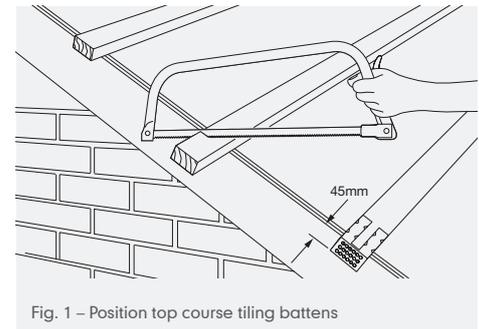

Fig. 1 – Position top course tiling battens
- 2 Saw tiling battens off square to overhang bargeboard or brickwork by 45mm and treat cut ends with a suitable timber treatment. Nail or screw battens within 500mm of ends (Fig. 1).